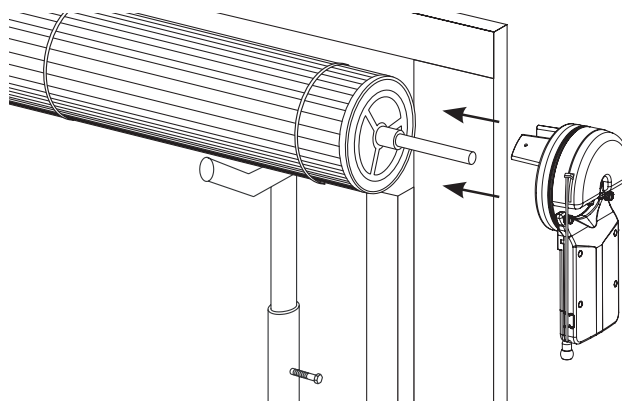

Fig. 6
- 7 Slide the drive unit over the door shaft and make sure that the fork engages one of the spokes of the door drum wheel (Fig. 6).